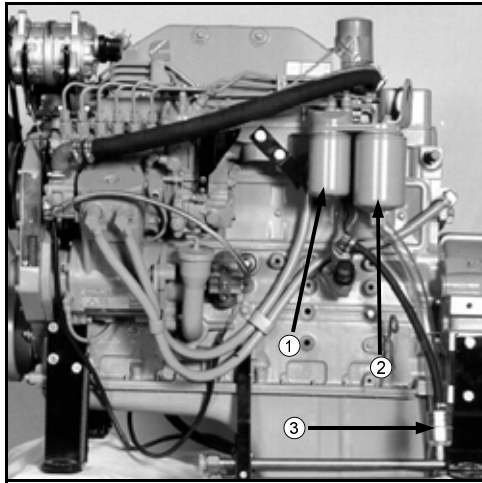

FIG 8.31
PRIMARY (WATER SEPARATOR) - (fig. 8.31, item 1) Drain water and sediment from the separator daily. Replace every 500 hours or once a year, whichever comes first.
SECONDARY - (fig. 8.31, item 2) Replace every 500 hours or once a year, whichever comes first.
IN-LINE STRAINER - (fig. 8.31, item 3) Note direction of fuel flow arrow when replacing.